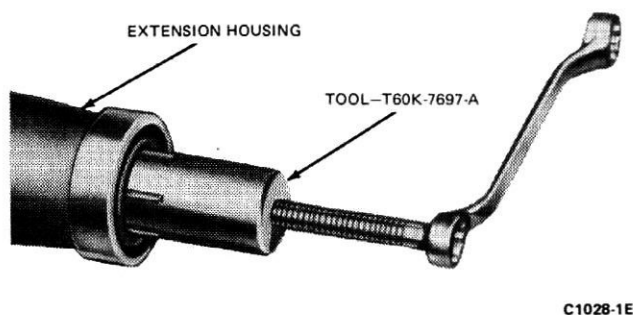

FIG. 18 Removing Extension Housing Bushing and Seal
3. Turn the screw clockwise until the bushing and seal are free of the housing (Fig. 18).